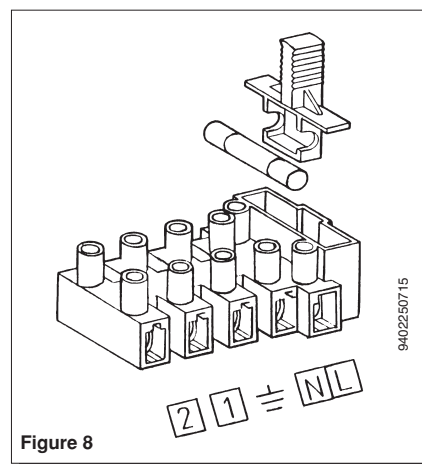

Figure 8
- unscrew the lid and gain access to the wiring (Figure 8).